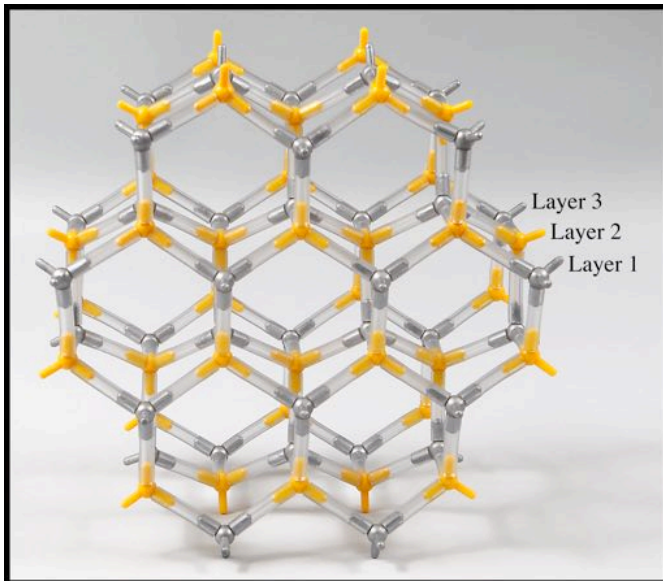

Fig. 7
6. Fig. 7 shows the three layers in register.